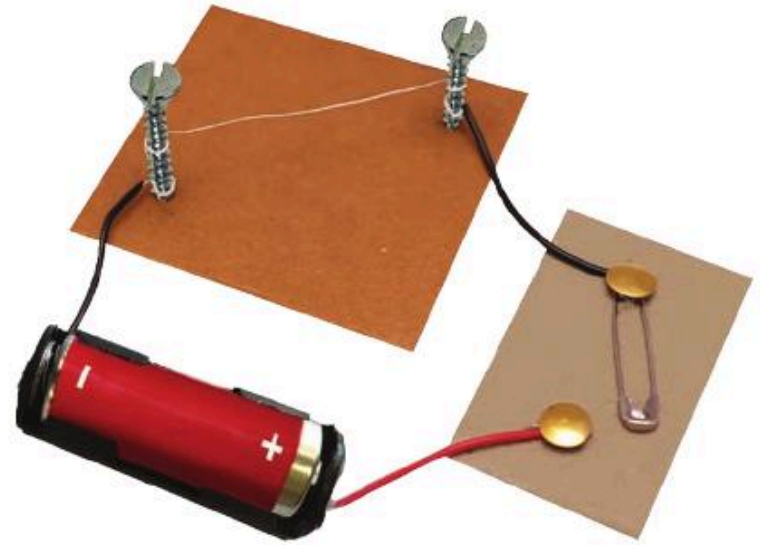

Fig. 4.5: Heating effect in a wire
- Tie the nichrome wire between these nails and make the connections as shown in Fig. 4.5 with the switch in OFF position.